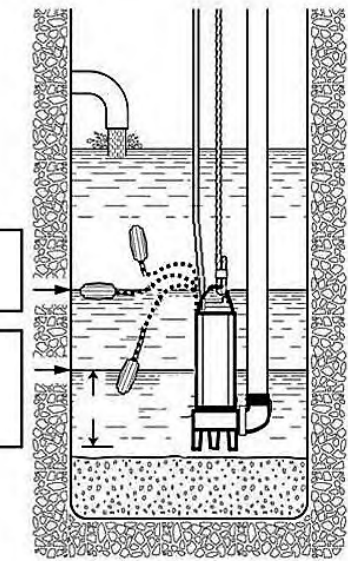

Fig. 4
- 1) **Mobile:** the electric pump rests on the bottom of the tank (fig 4) or suspended with a special rope (or chain), anchored to the handle or support hook.